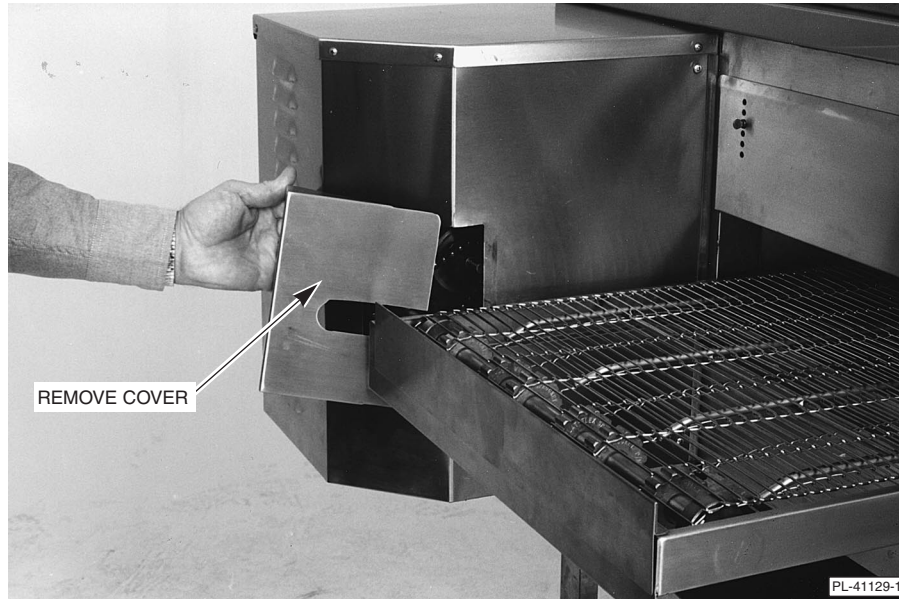

Fig. 5
- b. Remove cover where conveyor shaft enters the left-hand control box (Fig. 5).